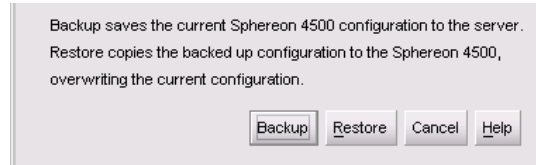

Figure 4-64 Backup and Restore Configuration Dialog Box
5. Select the *Backup & Restore Configuration* option from the *Maintenance* menu. The *Backup and Restore Configuration* dialog box displays (Figure 4-64).